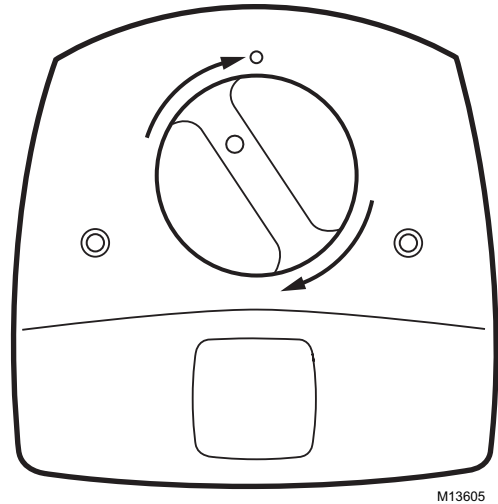

Fig. 17. Snap bulb into place.
- Rotate the lamp handle clockwise until it snaps into place with the lamp light indicator aligned with the raised button on the unit cover. See Fig. 17.
9. Rotate the lamp clockwise until it snaps into place with the lamp light indicator aligned with the raised button on the unit cover. See Fig. 17.